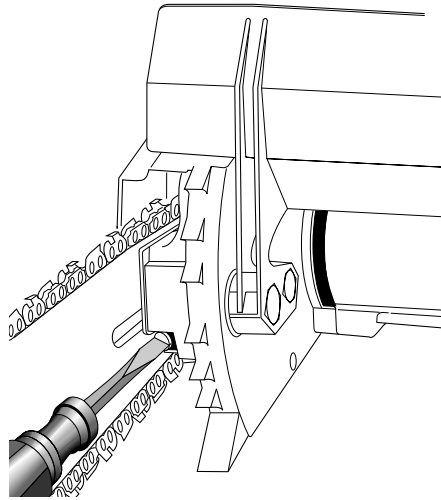
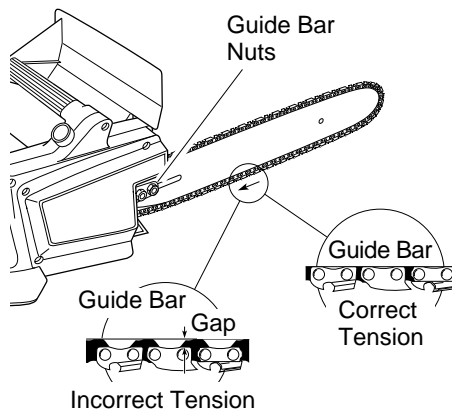

Figure 5 - Turning Adjusting Screw
Figure 6 - Saw Chain Adjustment
2. Turn adjusting screw clockwise until all slack is out of chain (see Figure 5). *Note:* There should be no gap between side links of chain and bottom of guide bar (see Figure 6)